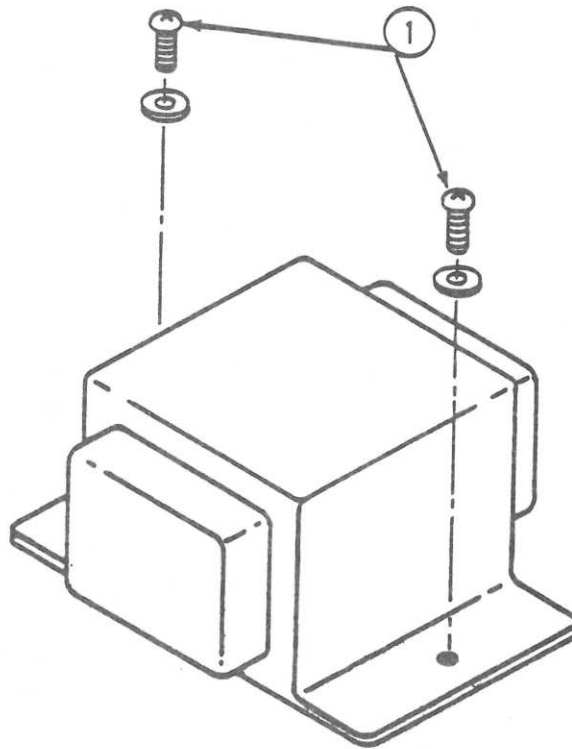

FIGURE 33
2. Remove the two screws from the transformer. (See Figure 33, #1.)